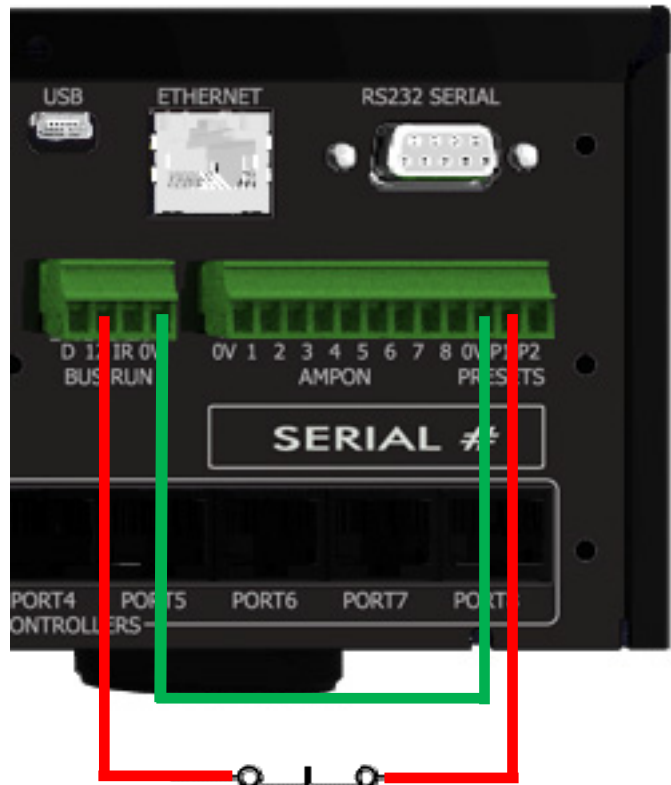

FIG 3
- **PRESETS:** P1 and P2 Inputs are active low. Connect C (common) and either P1 or P2 across an illuminated door bell switch. The illuminated doorbell switch must have an External 12V – 24V AC/DC supply and current limiting resistor connected. If a dry contact is to be used for PRESET Activation, it must be normally closed or a Push to break contact. The BUS RUN 0V and +12V can be connected as shown in FIG 3